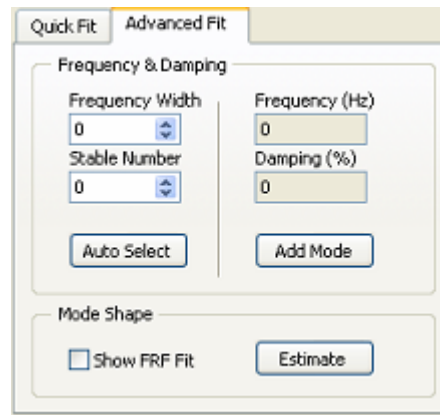

Figure 1-51 Advanced fit tab page
- Select tab page **Advanced Fit** as Figure 1-51 shows.